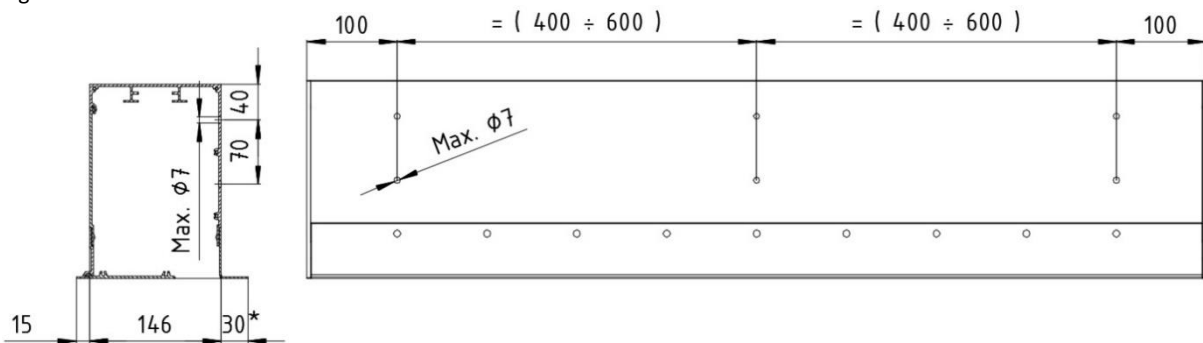

Fig. 8. Scheme of preparation of the installation holes in the under-plaster cassette. * - variable dimension, usually 30 mm.
- Under-plaster cassette is delivered without installation holes. They have to be done individually according to the below guidelines (Fig. 8). At least 3 openings are required for each 1m of length of the cassette.
4. Prepare installation holes in the under-plaster cassette according to Fig. 8.